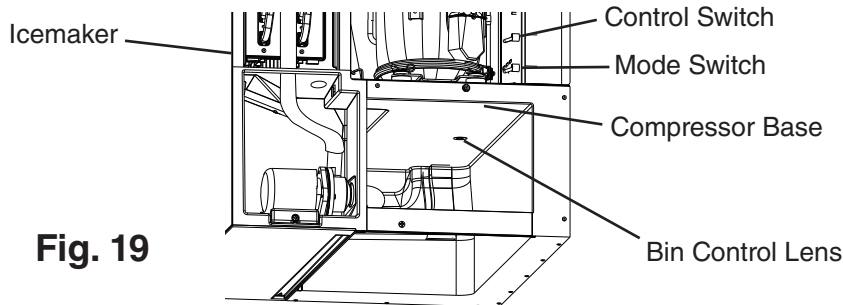

Fig. 19
- 6) 1 min. fill cycle begins. Place an object 5" to 7" (127 to 178 mm) away from the bin control lens. See Fig. 19. 15 sec. later, the icemaker shuts down. Remove the object from the bin control lens. 30 sec. later, the icemaker restarts.